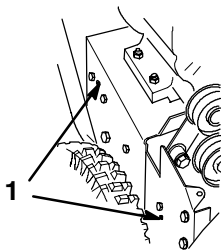

Figure 20
16. Install the two screws that secure the auger brake arm assembly. Make sure that the tabs fit into the holes in the left side of the snowthrower (Fig. 20).
13. Install the two screws that secure the auger brake arm assembly. Make sure that the tabs fit into the holes in left side of the snowthrower (Fig. 20).